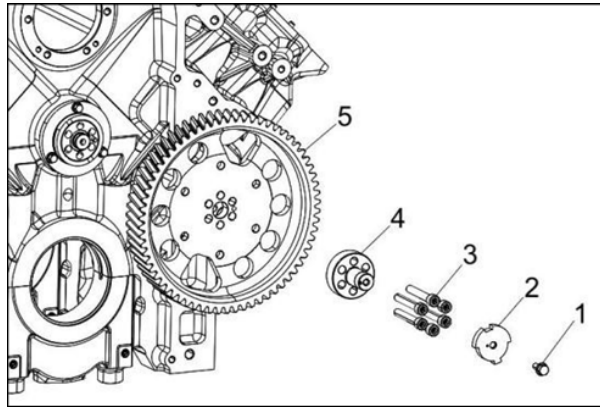

Figure 147.
2. Install the camshaft gear (Figure 147, item 5) and the connecting shaft (Figure 147, item 4) of trigger wheel (Figure 147, item 2).